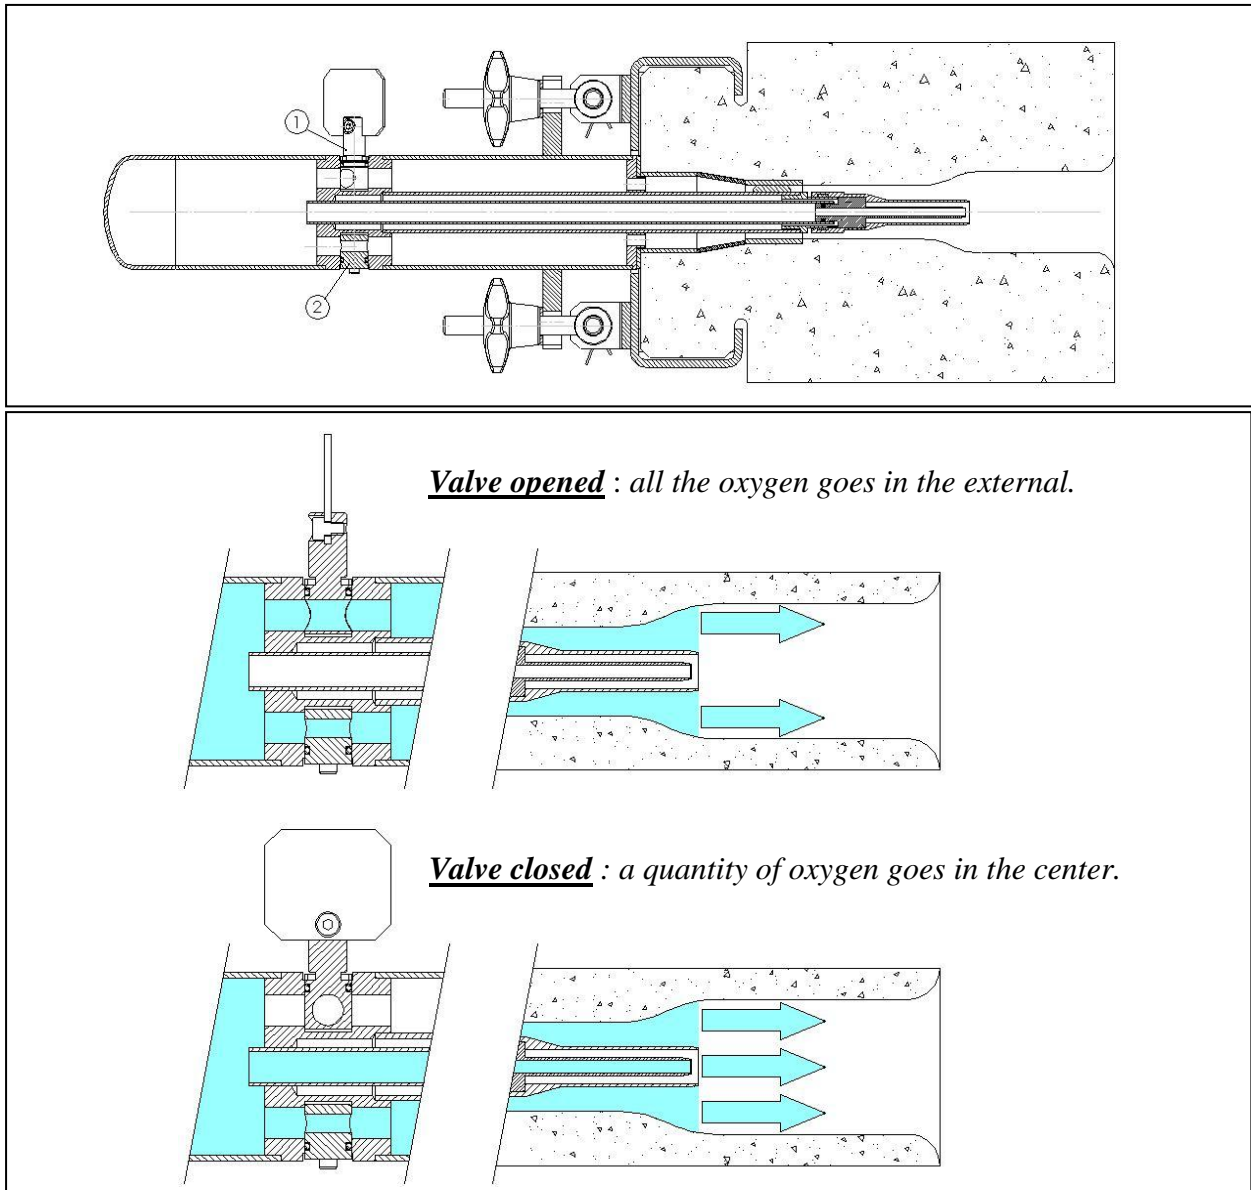

Figure 6
The maximum quantity of oxygen going through the central injector, about 20 %, is controlled by an interchangeable calibrated orifice (2) (Figure 6).